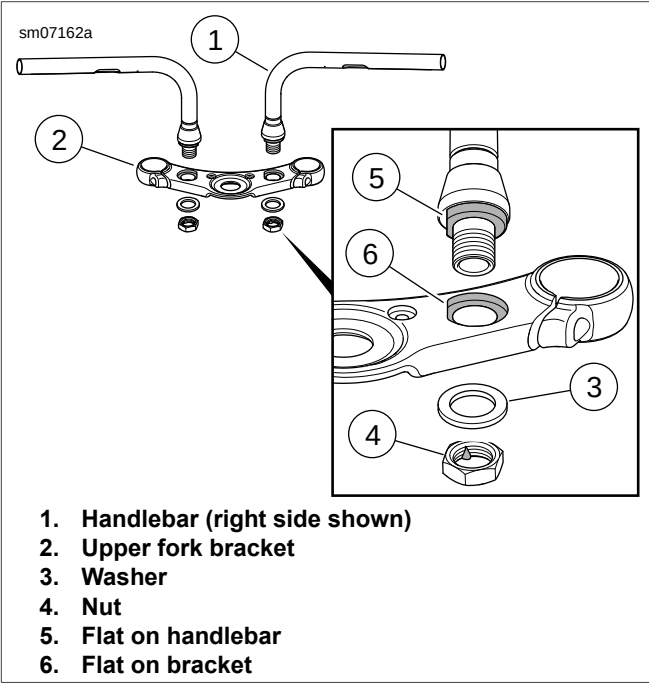

Figure 2-96. Handlebar: FXS
See Figure 2-96. Nut (4) is a one time use only nut. If it is removed, it must be replaced.
10. Remove nut (4) and washer (3) securing handlebar (1) to upper fork bracket (2).
2. See Figure 2-96. Line up flat on handlebar (5) with flat on upper fork bracket (6). Insert handlebar into fork bracket.